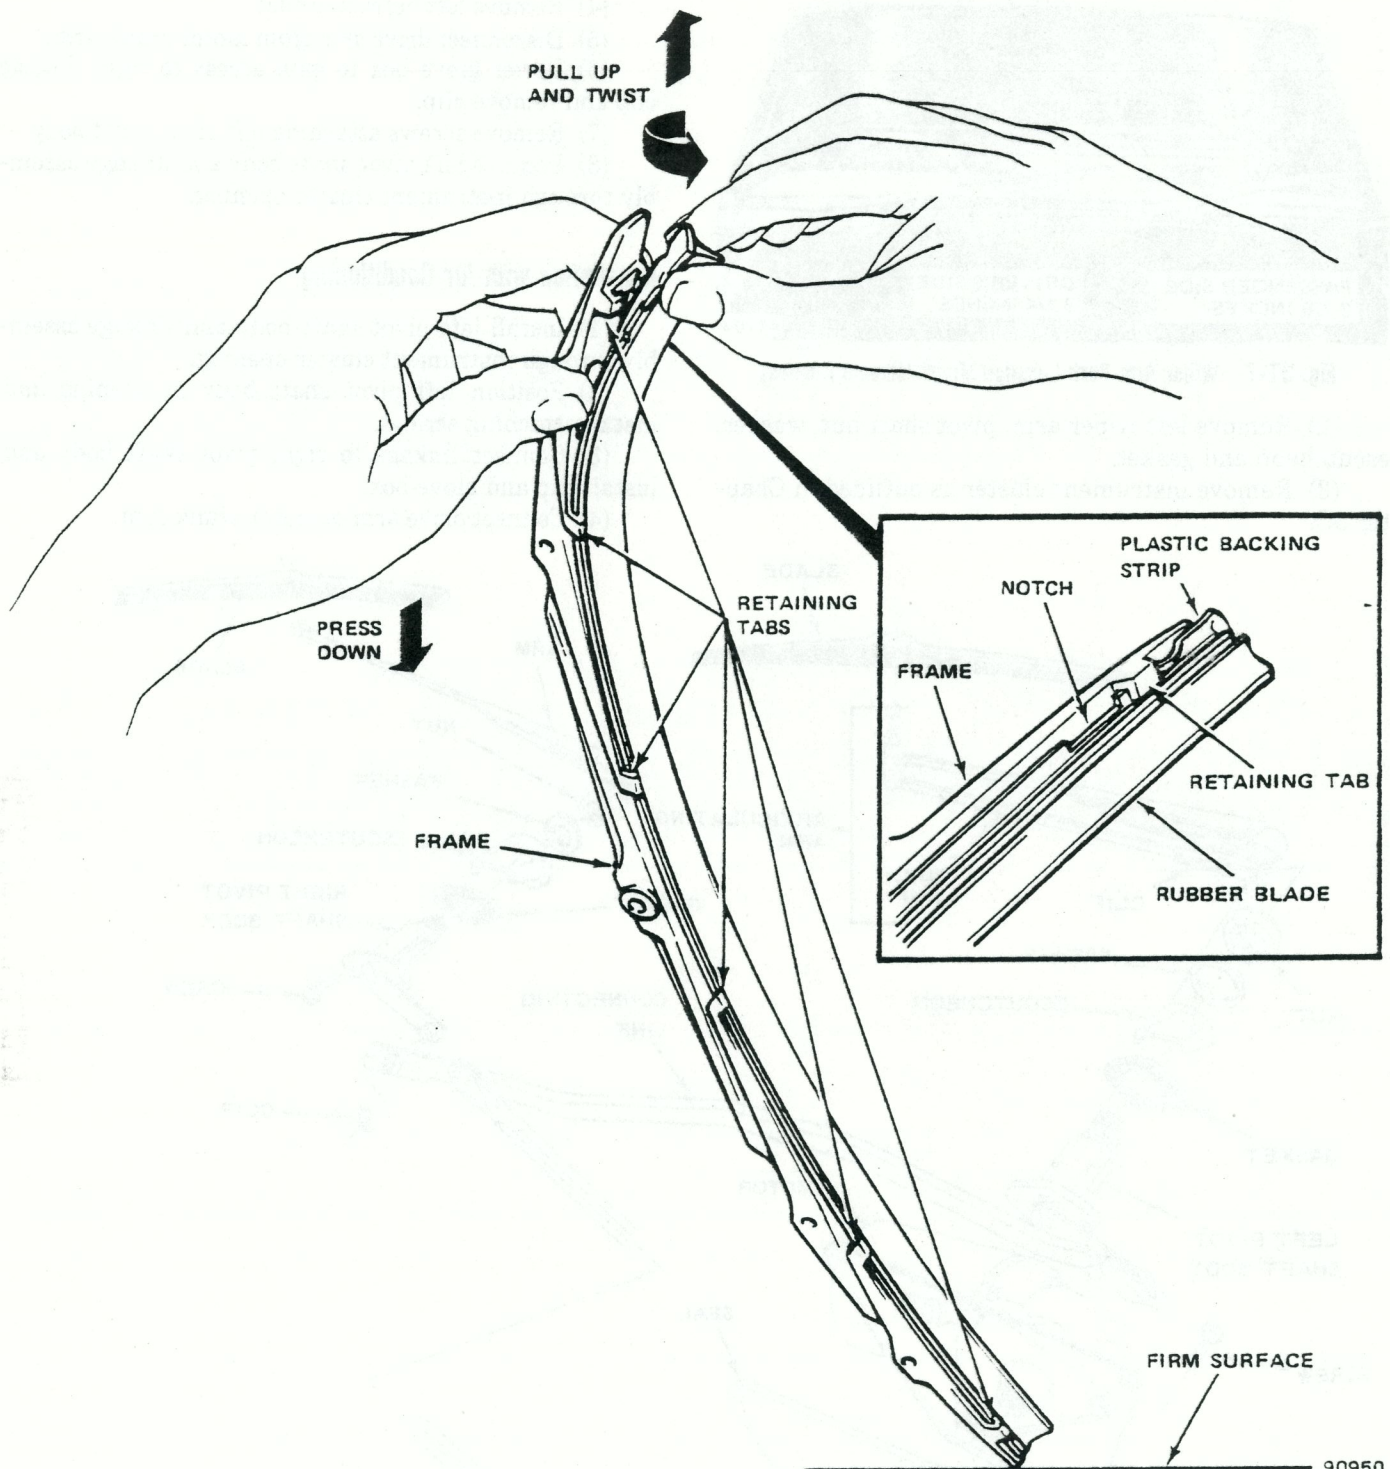

Fig. 3T-6 Wiper Blade Element Replacement
- (1) Remove wiper arms, pivot shaft nuts, washers, escutcheons, and gaskets (fig. 3T-8).
- (2) Disconnect drive arm from motor crank.
- (3) Remove individual links where necessary to remove pivot shaft bodies without excessive interference.